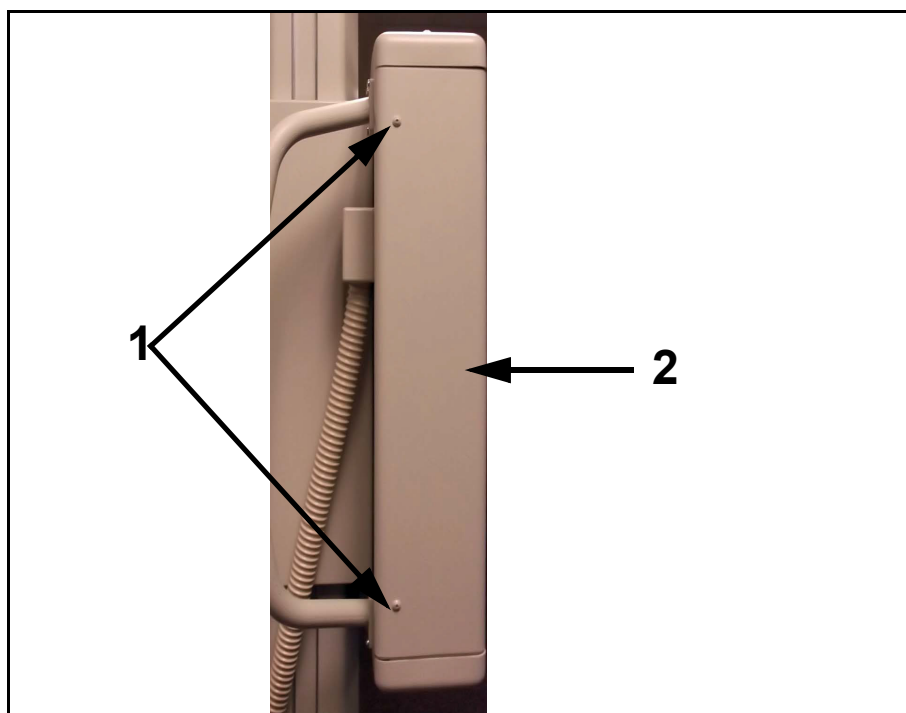

Figure E-3. Side Cover Screws
- 3** Unscrew the side cover screws (1 in Figure E-3) and remove the side cover (2).